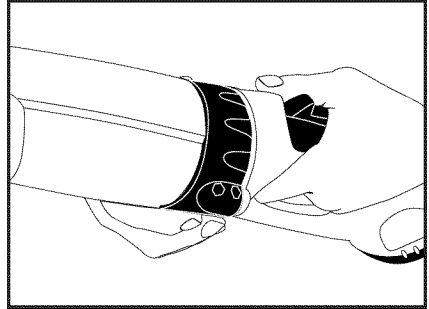

Figure 3
3. Grasp the tool attachment firmly with one hand (note, do not grasp on a rotating part such as the auxiliary handle), and twist the lock ring on the power handle to the locked position with the other hand. (see figure 3)